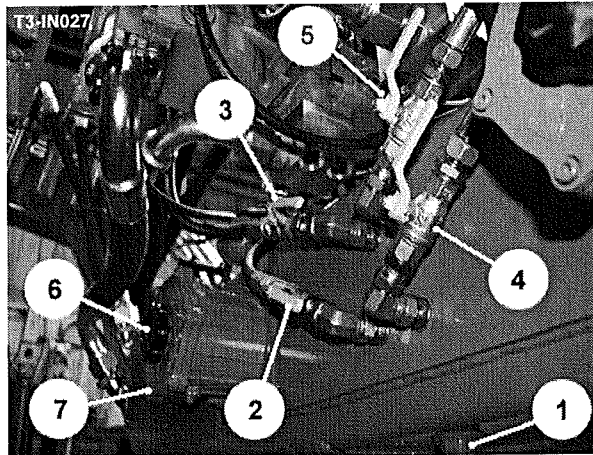

Fig 35
1. Wind the suction filter knob (item 6, fig 35) fully out anti-clockwise to close the cut off valve within the filter housing.